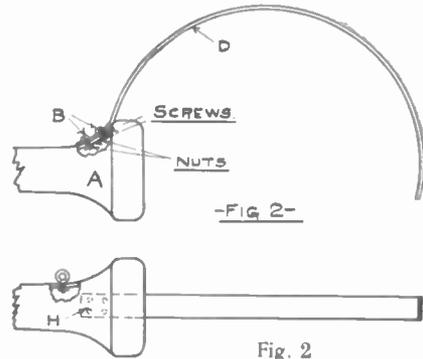

Fig. 2
I bought a piece of hard strap brass one inch wide and one foot long, and 1/16 of an inch thick. One inch from one end I bent it as in Fig 2, and bored a 1/8 inch hole in each corner of the straight
part, shown at B, Fig. 2. I now bored 4 corresponding holes (H, Fig. 3) in the receiver shell just back of the screw cap with a 3/32 inch drill. I now screwed the brass strap to the receiver with four screws, 5/16 inch long. These screws (6-32 or 8-32 thread), are fastened inside with 4 nuts, which makes the head band very secure.
M.E. -FIG. 2-
post nail one of the brass-headed tacks; these tacks are pretty long and will go through to the other side, but they should be bent over after the wiring has been put on. The wire should be fastened on the board by the little tacks. Before putting the wire on, twist it around one of the binding posts and then put on the wire as shown in Fig. 2. After the wire has been put on as far as the last tack, wind it around the tack and then cut the wire off, and bend the tack over. Then
-Fig. 2.a-
-FIG. 2-
Hold the tube so that it will stand straight and hold the wire so it will touch the bottom of the tube and be in the center of the tube. Then pour melted paraffine into the tube up to the top. Hold the wire until the paraffine has hardened. If paraffine can not be obtained candle wax would do. Connect the Leyden jar as in Fig. 1 and a crackling blue spark will jump the gap. The spark gap must be about 1/4 inch on a 1 inch coil, as the Leyden jar increases the thickness and decreases the length of the spark. I have made several of these jars to work with a 1-inch coil and have found that they worked so well that I have discarded my glass plate condenser in favor of the jars. More than one jar may be connected, as in Fig 2, with increased efficiency.